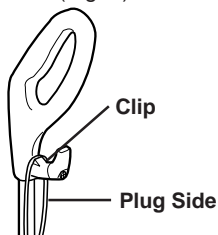

Fig.3
- 1** Insert the power cord in the clip located on the upper cord storage hook as shown. (Fig. 3)